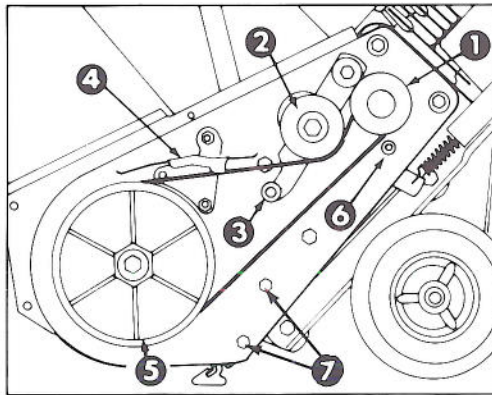

Figure 14
4. Remove (2) capscrews and nuts securing lower housing bracket to sideplate (Fig. 14).
3. REMOVING BELT (Fig. 14) – Push down on idler pulley allowing belt to be removed from rotor pulley, brake arm assembly and engine pulley.
4. INSTALLING BELT (Fig. 14) – Loop belt around engine pulley, under idler pulley, over roller, thru brake assembly and around rotor pulley.